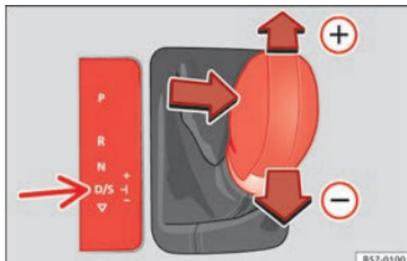

Fig. 195 Centre console: changing gear with tiptronic
- Move the selector lever forwards (+) to select a higher gear » **Fig. 195.**